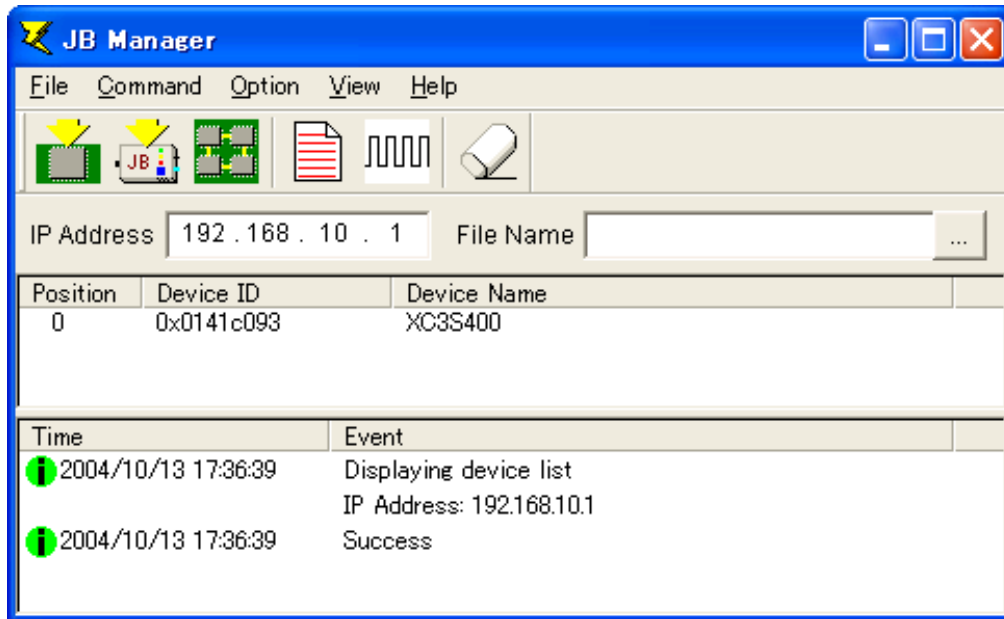

Figure 5-18 Display Device Information Window after Acquisition
- If the acquisition is successful, the device ID is displayed as shown in **Figure 5-18**.